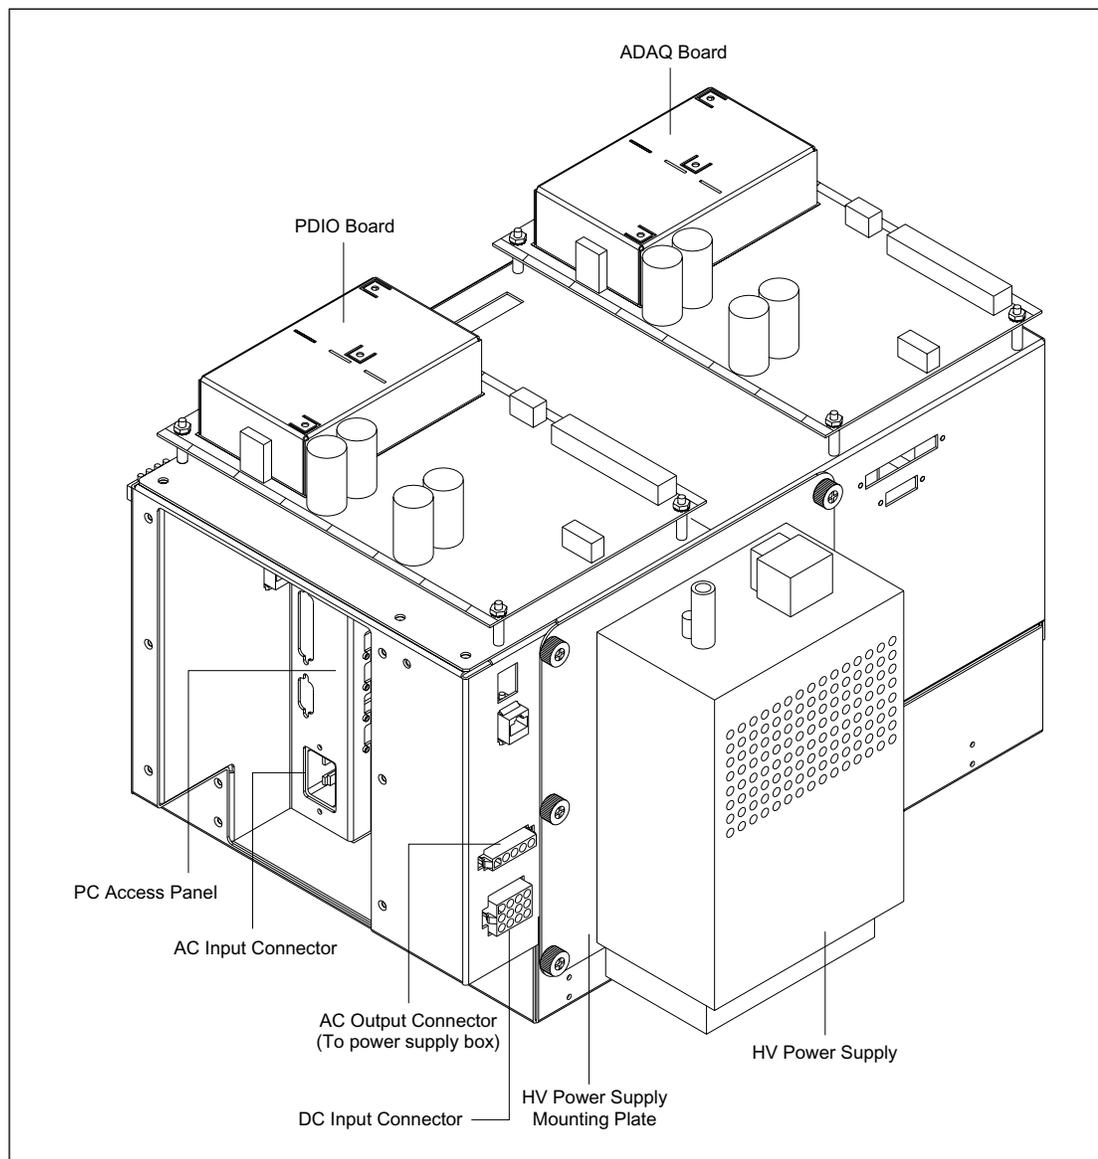

Figure 4-12. Internal Computer Assembly.
The internal computer assembly consists of the internal computer, computer enclosure, EPHV board, ADAQ board, PDIO board, and high-voltage (HV) power supply. Figure 4-12 illustrates the internal computer assembly with the PDIO board, ADAQ board, and HV power supply in position. The PDIO board and ADAQ board are each mounted to the top cover assembly onto four plastic standoffs and secured with four nuts and washers. The plastic standoffs are press-fitted into holes in the top cover. The HV power supply is secured to a mounting plate with six screws. The mounting plate is then secured to the computer enclosure with six knurled captive screws.